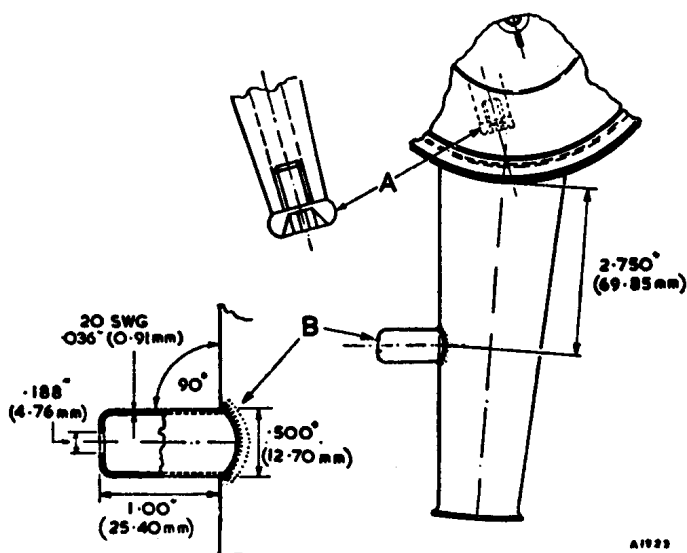

Fig. BBB.3
Remove the pipe between the rocker cover and the air cleaner elbow, and plug connection (A) with a screw (Fig. BBB.3). A suitable screw is PMZ 0406 $\frac{1}{4}$ in. \times $\frac{1}{8}$ in. UNF. pan head.
Drill a $\frac{1}{8}$ in. (13.49 mm.) dia. hole in the air cleaner intake at the position (B) (Fig. BBB.3), make a restricted inlet nozzle of 20 S.W.G. (9.10 mm.) material to the dimensions shown, and silver-solder into the hole. Cut off the original rubber breather pipe to the requisite length and refit it between the rocker cover and the nozzle (B).